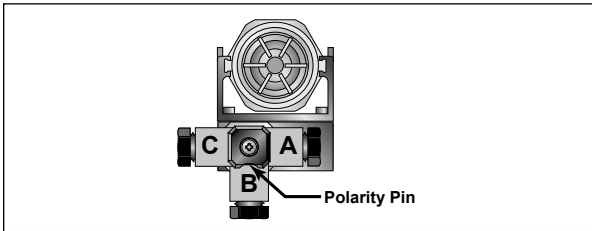

Figure 15. Polarity Pin
3. After securing wires to solder lugs, determine which direction the body of the connector should face. Before snapping the connector into place, refer to Figure 15 on page 10.